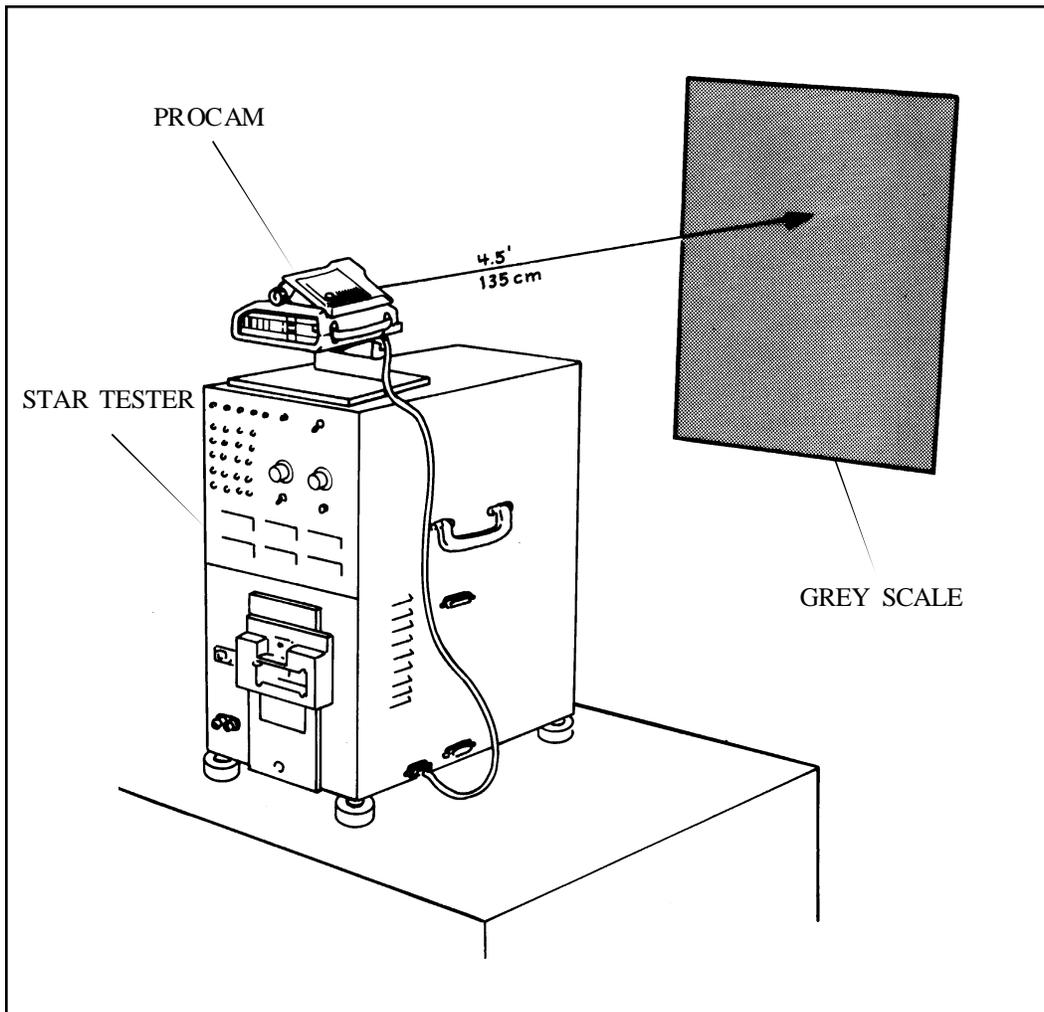

Figure 2-2. Locating Tester in Relation to Graywall Target
2. Locate the Tester (Figure 2-2) on a bench or table so that when the ProCam on its Horn is placed on the top of the Tester, the ProCam lens will be exactly 4.5 feet (135 cm) from a graywall target. Also, be sure that the front of the ProCam is parallel to the graywall (or the long axis of the ProCam, front to back, is at right angles to the graywall).
3. Be sure that the area between the ProCam and the graywall, for a width of approximately four (4) feet (or what can be seen in the ProCam viewfinder), is clear of any objects. This will prevent erroneous readings caused by reflections from the sonar side lobes of the ProCam.